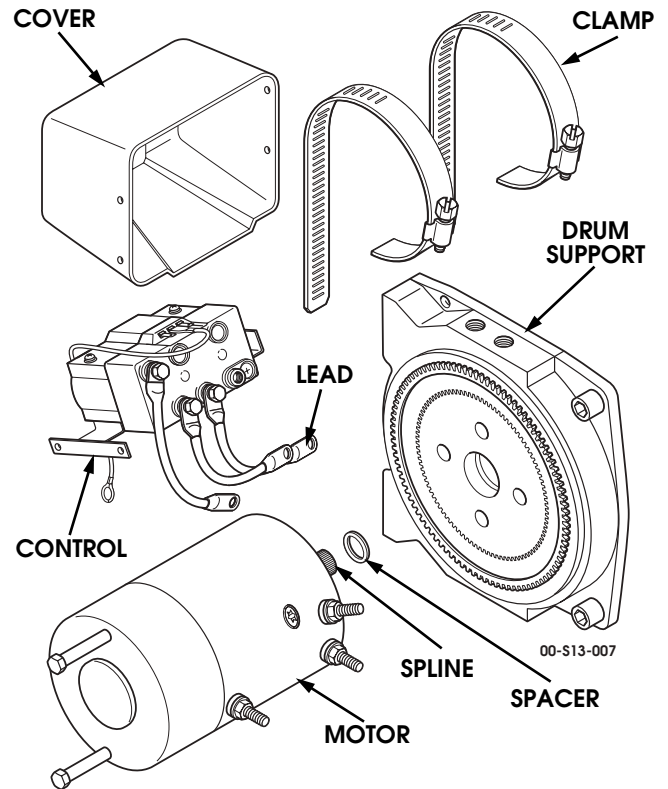

Figure 9-197: Motor and Control Unit
9. Inspect motor, spline, mating surface, and terminals for damage. Replace motor if damaged (Figure 9-197).